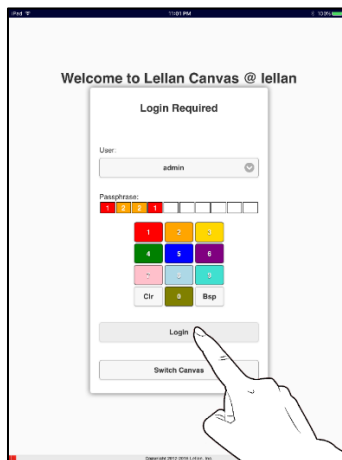

Figure 5-18: The Login Page
6. To enter the LellanApp, tap on the list item for the desired DigitalCanvas. This will take you to the *Login* Page for that DigitalCanvas (see Figure 5-18).